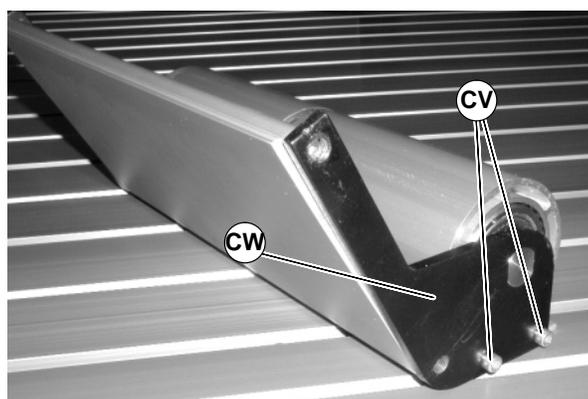

Figure 89
4. Remove screws (CV of Figure 89) and idler guide side plate (CW).